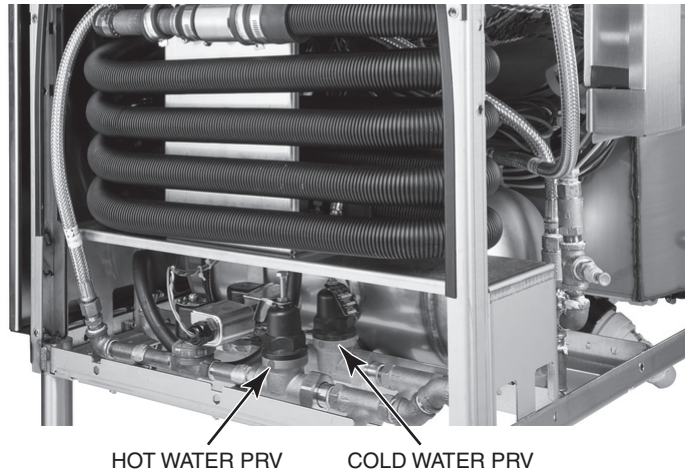

Fig. 15
7. While the machine is filling thru the final rinse, adjust the final rinse hot water pressure regulating valve (Fig. 15) until the final rinse pressure gauge reads 20 ± 5 PSI.